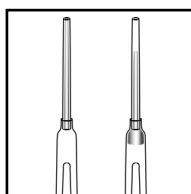

Figure 4
7. Pull the VACUette into a vertical position. A small portion of the collected sample should fall into the sleeve of the VACUette tip. Fig. 4